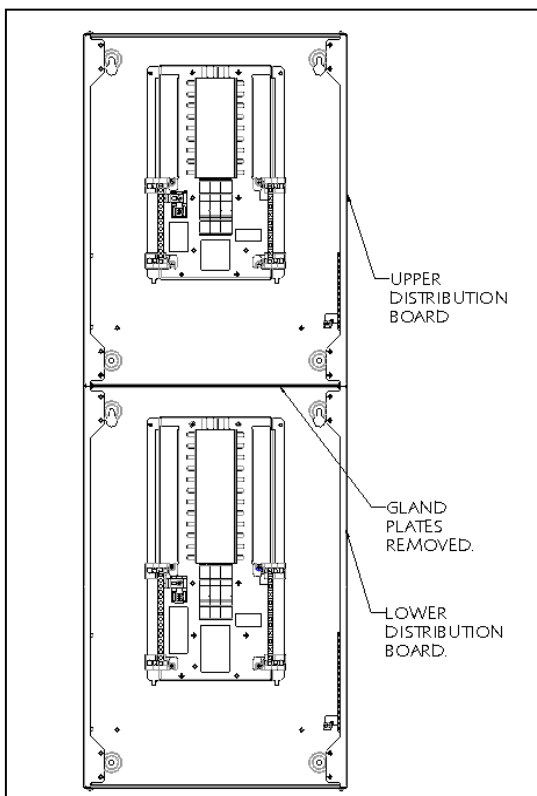

Fig.1.0
- Both distribution boards should be fixed to the installation surface so as they are aligned and in contact vertically – see Fig. 1.0.